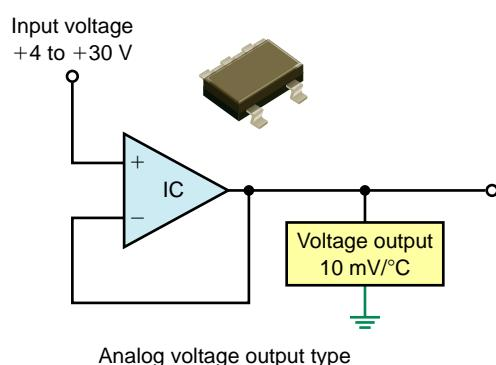

Figure 4-47 Integrated circuit temperature sensor.
Integrated circuit (IC) temperature sensors (Figure 4-47) use a silicon chip for the sensing element. Most are quite small and their principle of operation is based on the fact that semiconductor diodes have temperature-sensitive